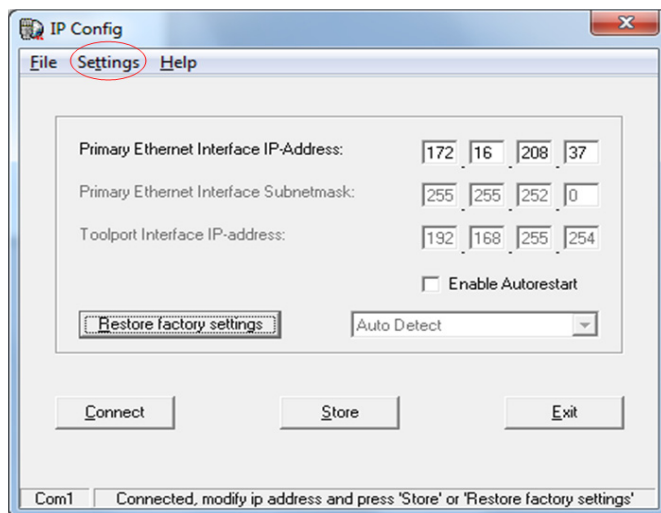

Figure 21. IPConfig Dialog Box
- In the IP Config dialog box (Figure 21), select:
- If the connection procedure passes, the current IP settings (the IP Ethernet address and its associated Subnet mask) will be displayed in the IP Config dialog box shown in Figure 21 (settings not shown in figure).